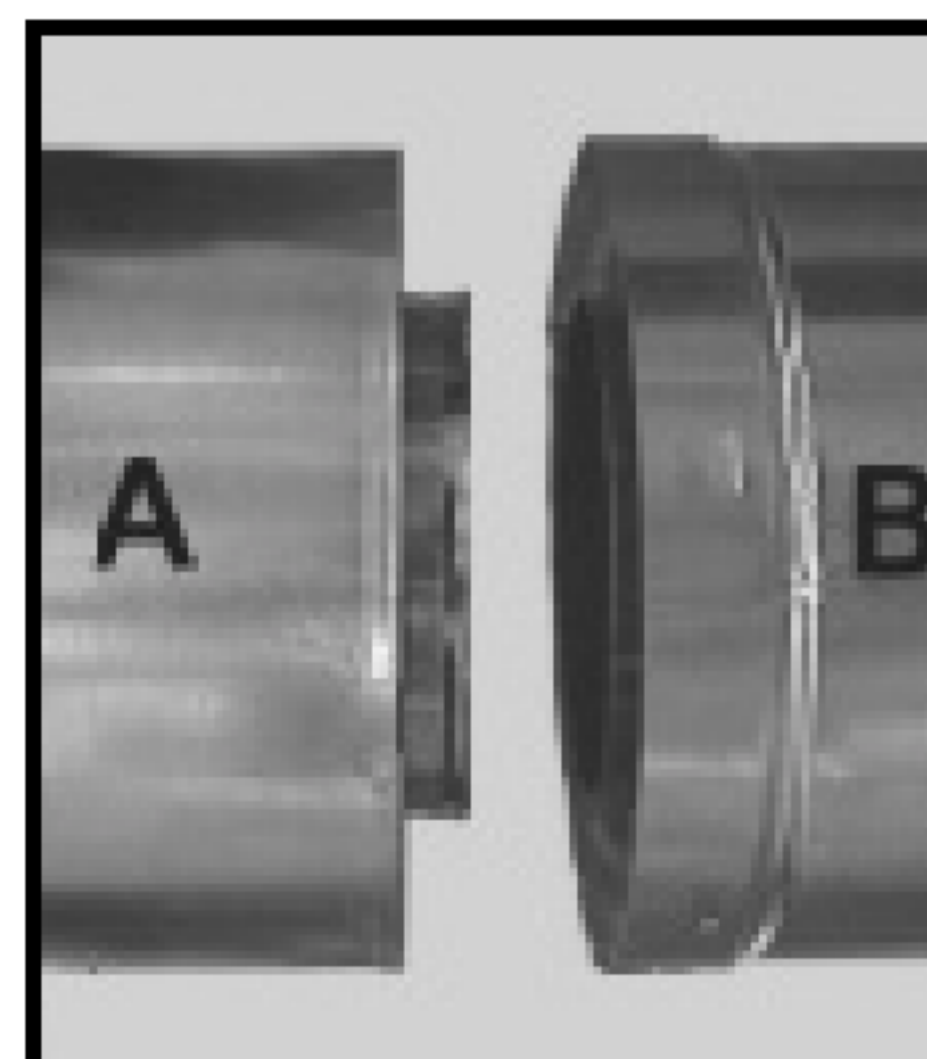

Figure 32
- b. Insert the outer flue of Section "A" into the outer flue of Section "B". See Figure 32.